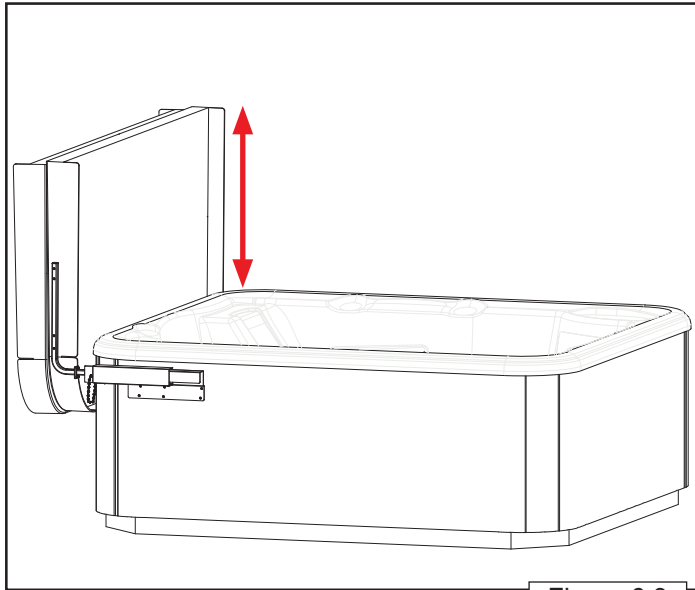

Figure 6.3
4. See (Figure 6.3) for correctly fully open position of your cover when ProLift cover lifter is installed correctly.